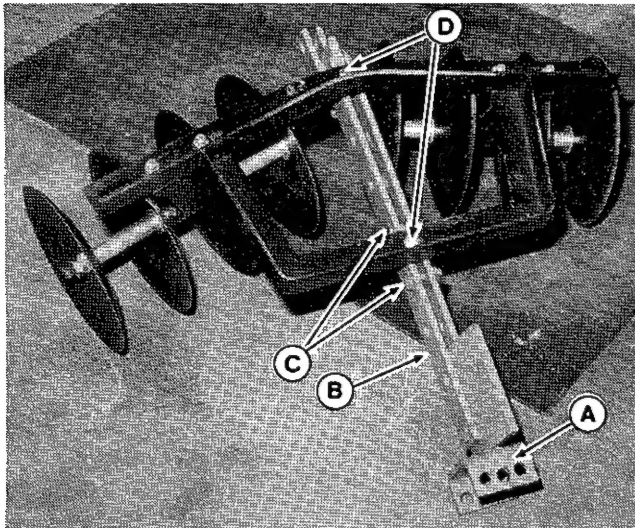

Figure 8. Disc Harrow
2. Attach the yoke to the tool bar as shown in figure 8. Be sure the "Up" arrow points up. Be sure to use lower two holes in yoke.